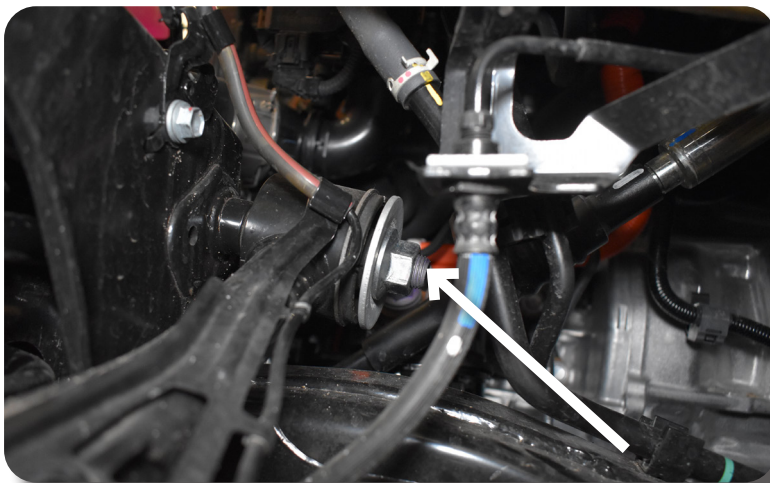

Figure 12
16. Loosen the UCA Nut using a 22mm wrench. Fig. 12